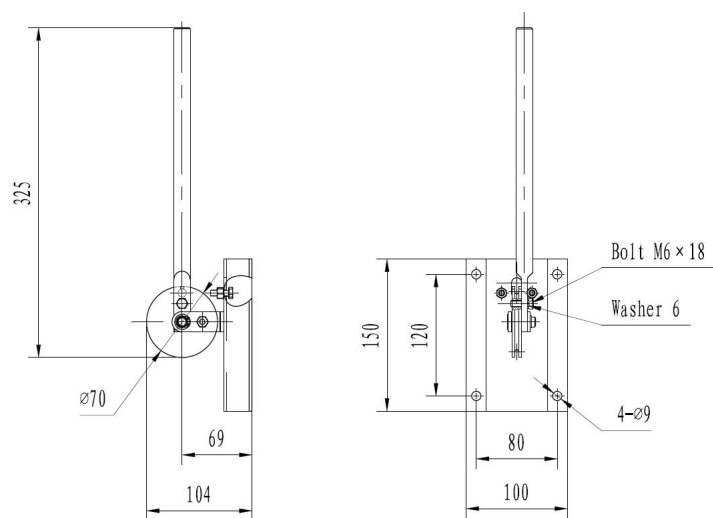

Figure 1.4
- 1) The loose brake soft pipe pass through the through hole of the mounting plate , and are arranged on the wheel which is fixed on the mounting plate. The relative position of the installation of wheels and handle as figure 1.4, the wheel is ensured to be in the inner side of the handle , so that the rope groove on the wheel can be matched with the through hole of the mounting plate , after the loose brake soft pipe is installed, use the M6×18 bolt and washer to lock the wheel with the handle ;